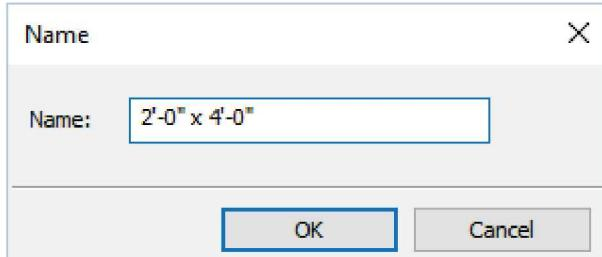

FIGURE 17-5.2 Naming the family type
4. Enter **2'-0" x 4'-0"** for the name of the first *Type* (Figure 17-5.2).